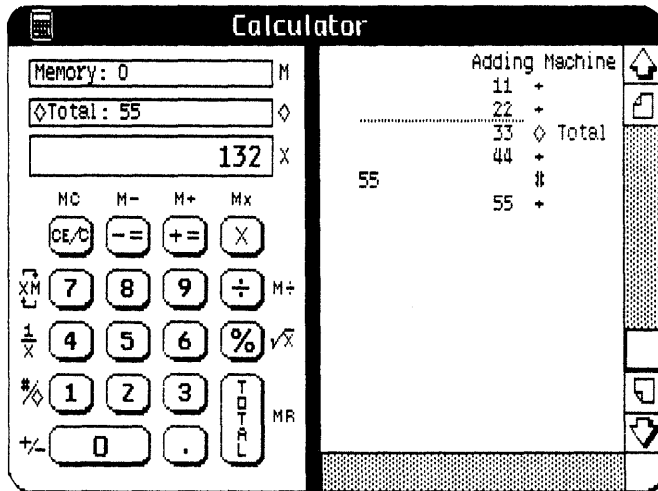

Figure 8. Adding Machine, Example 2
- 10 ► Click +=; see Figure 8 now.
In Figure 8, the number 55 has been shown and then entered into the calculation. A number that is shown without being entered into a calculation is labeled #.